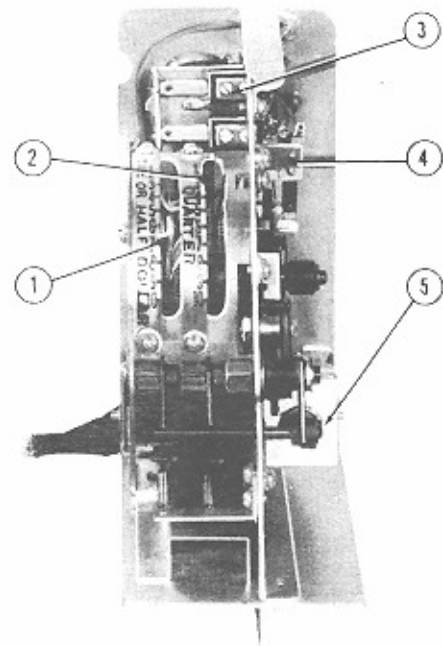
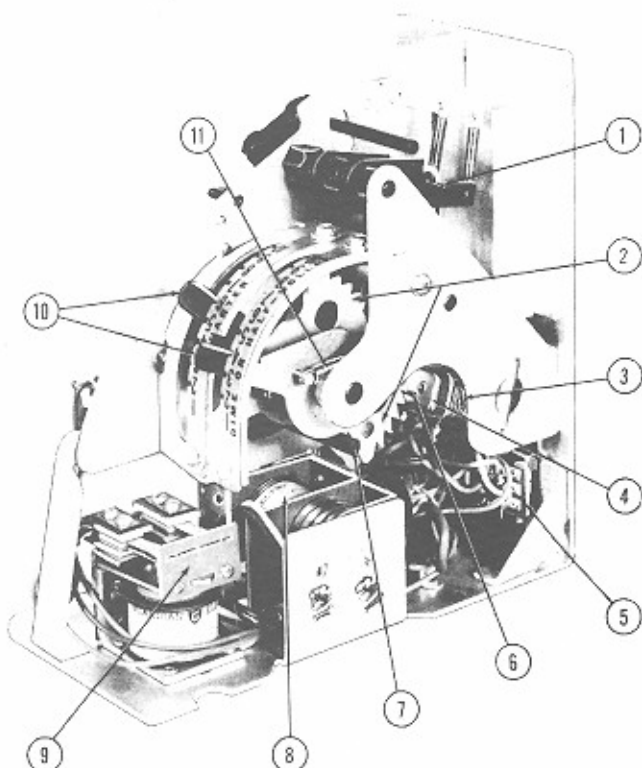

Fig. 8. COIN REGISTER MECHANISM 65791
Fig. 9. COIN REGISTER COMPONENTS
(1) When only one play is to be delivered by the coin register mechanism the coin switch impulse will be applied directly to the set-up relay (Fig. 9) and the key-switch (Fig. 8) will have no function in the selection circuits.
(2) When more than one play is to be registered, the coin magnets are brought into action. When a coin magnet is energized, the armature on the lower end of the lever, hub, and stud assembly is attracted by the coin magnet, disengaging the escapement pin (stud) from the corresponding accumu-
(2) The cancel wheel has a drive pin (Fig. 9) which extends thru to engage the two accumulator wheels as shown in Figure 9. The cancel wheel drive pin will thus retard the accumulator wheel one es-
capement for each selection made. The escapement is provided by a small pin (stud) mounted to the corresponding "lever, hub, and stud assembly" as shown in Figure 9. At the same time cancel action provides reloading of the accumulator wheel spring.